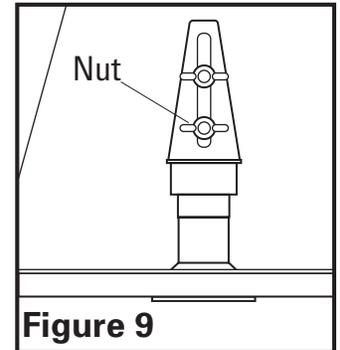

**Figure 8**
2. To remove the filters, pull down on the handle tab until the filter releases from the unit. To reinstall, slide tab at rear of filter into slot in the unit. While holding in handle of filter, lift filter into place and release handle. The filter should snap securely into place (Figure 8).